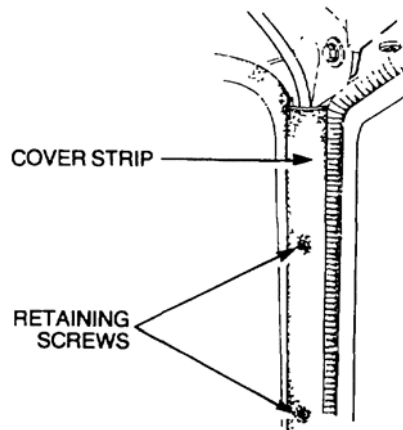

Figure 11 Removal of the Windscreen Frame Cover Strip
- n.** Remove the three screws from each of the vertical cover strips on the inside of the windscreen frame (Figure 11) and then remove the cover strip from the vehicle.